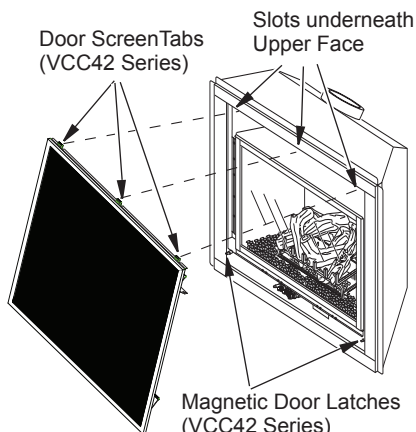

Figure 40 - Removing/Replacing Screen Door Assembly (VCC42 Series)
8. Replace screen door assembly, see removing screen door assembly, see Figure 40 page 25, (VCC42 series).